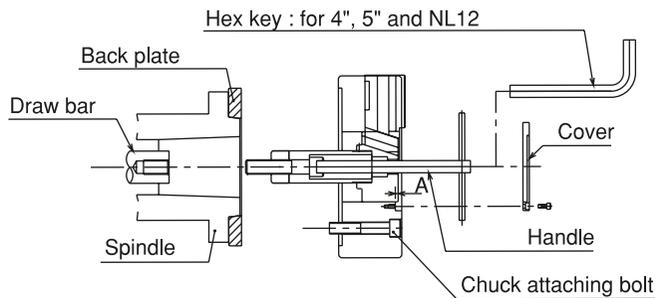

Fig.29
- The appropriate position of the wedge plunger at the cylinder forward end is the position when the dimension A in Fig.29 becomes as shown in the table below.